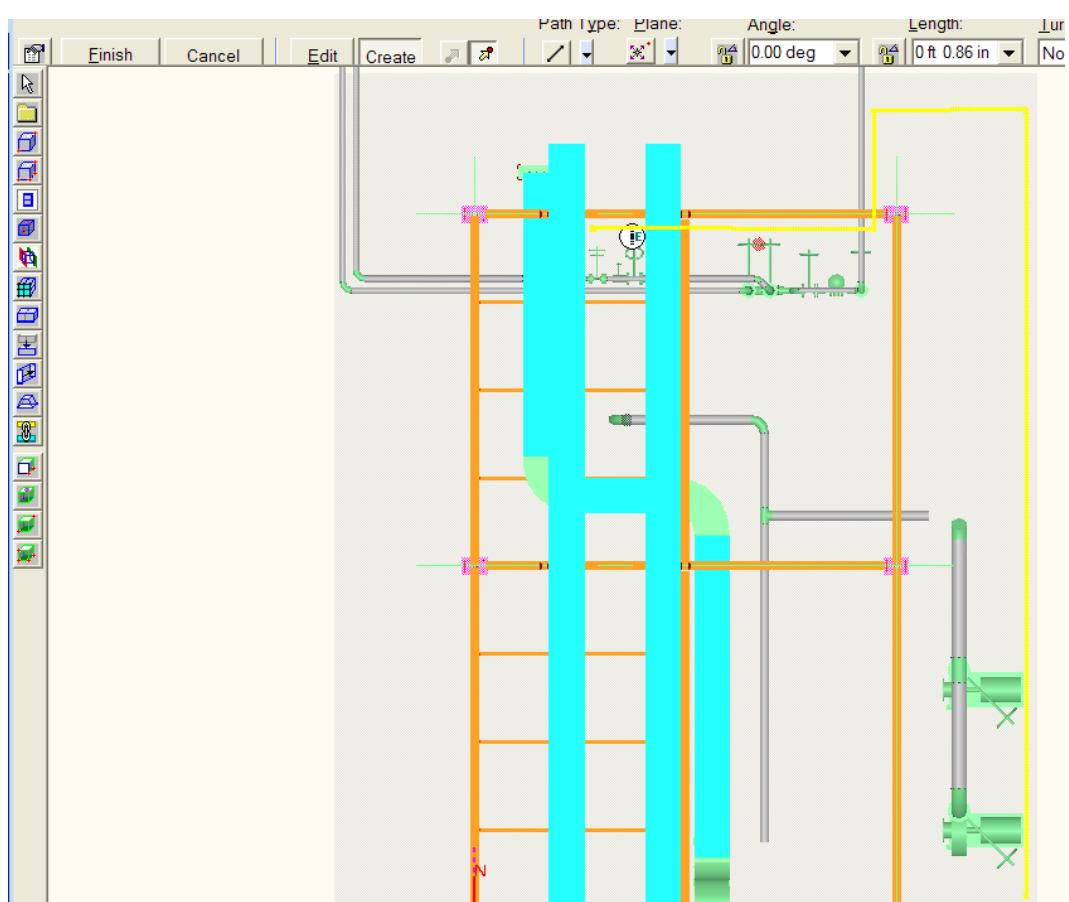

Figure 19: Defining Path of Volume
2. The Path ribbon is automatically displayed. Sketch the access way path shown in Figure 19.